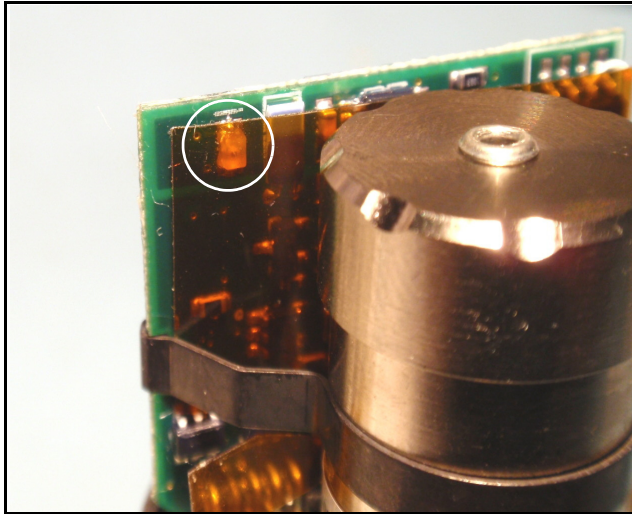

Figure 12: Location of Cryo Logger LED
Note: *The Cryo Logger LED will blink after ~25 sec after battery insertion. See Figure 12 on the next page for the LED location.*
- Note:** *The Cryo Logger LED (in the upper left corner of the PCB) will blink after ~25 sec after battery insertion. See Figure 12 on page 23.*